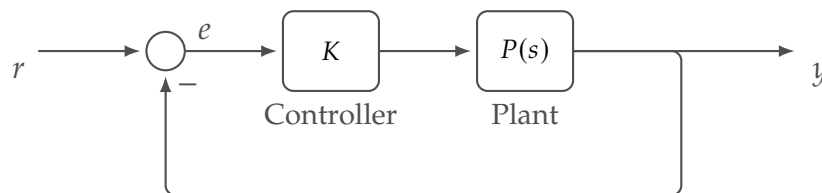

Figure 5.2: Block diagram of proportional controller and plant without delay.
- (1) Assume the plant $P(s)$ has a DC gain 1. **Calculate** a gain K so that the steady-state tracking error of the system shown in Figure 5.2 for a unit-step input is less than or equal to 2%. From the range of gains K , **choose** a value for K that lies within 10% of the smallest gain that satisfies the steady-state step tracking error requirement.
- (2) **Change** the variable K in the MATLAB script “procedure_5_1.m” to match your chosen gain. **Run** the script.
- (3) **Open** the “Lab_5_Model_System.slx” Simulink model and **ensure** that